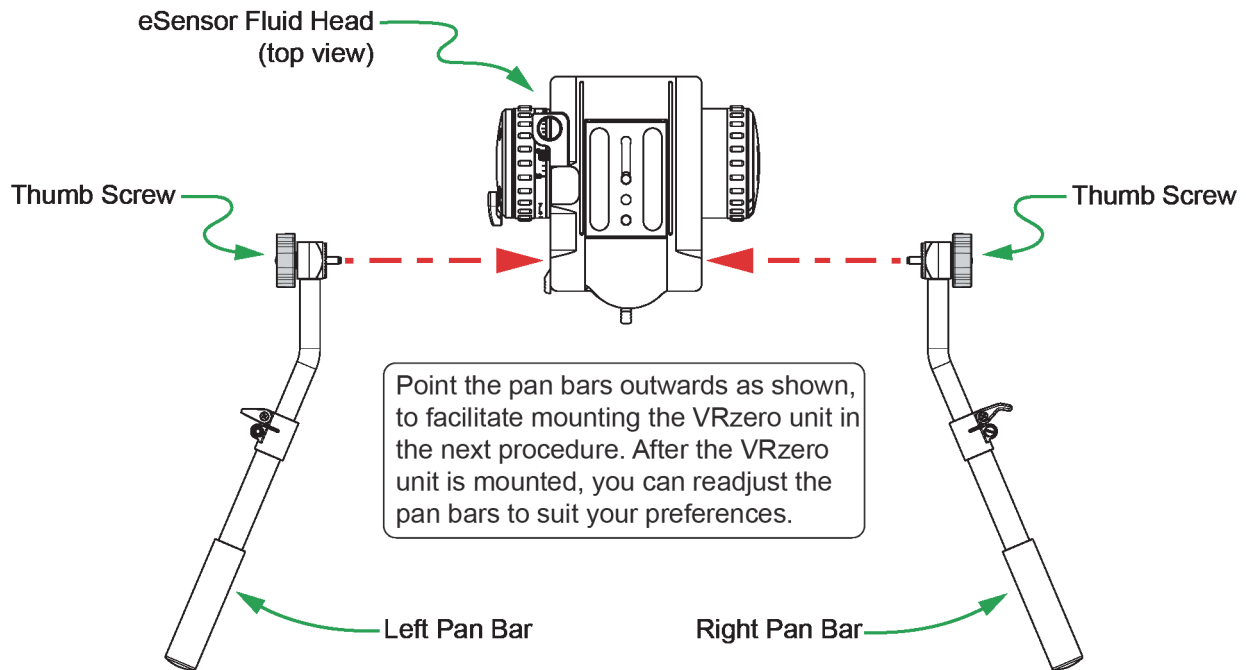

Figure 3.2 - Attaching the Pan Bars to the eSensor Fluid Head (view from above)
1. Unpack the two pan bars (right and left) and determine which is which (see **Figure 3.2**).
- a. Align the pan bar so it extends horizontally from the eSensor fluid head and points outwards (see **Figure 3.2**)